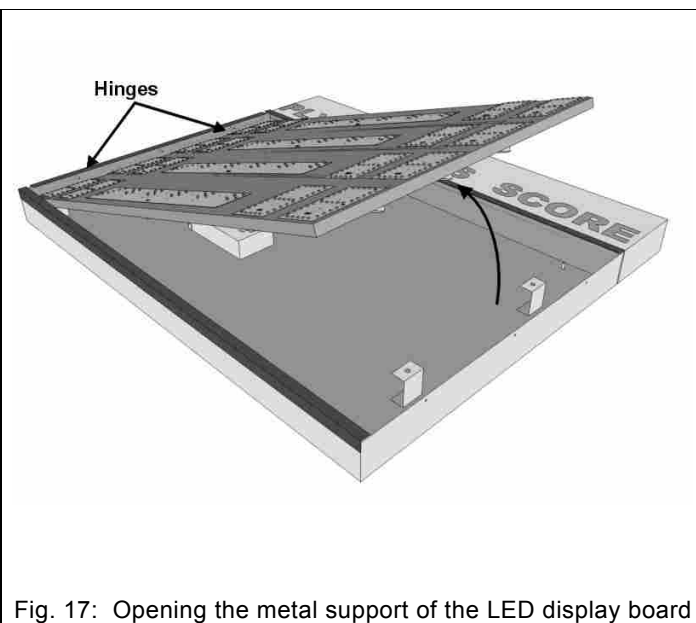

Fig. 17: Opening the metal support of the LED display board
5. Rotate the LED board support (Fig. 17) using the hinges on the left side as a pivot.